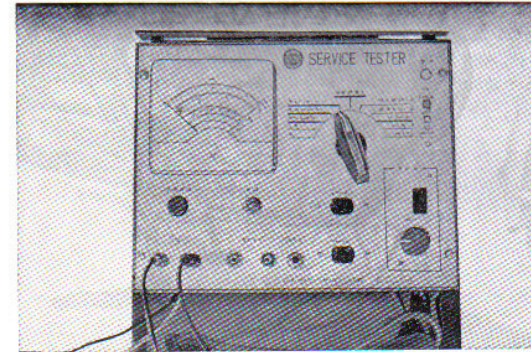

Fig. 5.98 Condenser capacity measuring
- (1) Connect to the battery (power source)
- (2) Setting the switch to "resistance" perform the scale adjustment in the same manner as for resistance measurement.
- (3) Turn the switch to "Condenser". (Fig. 5.98)